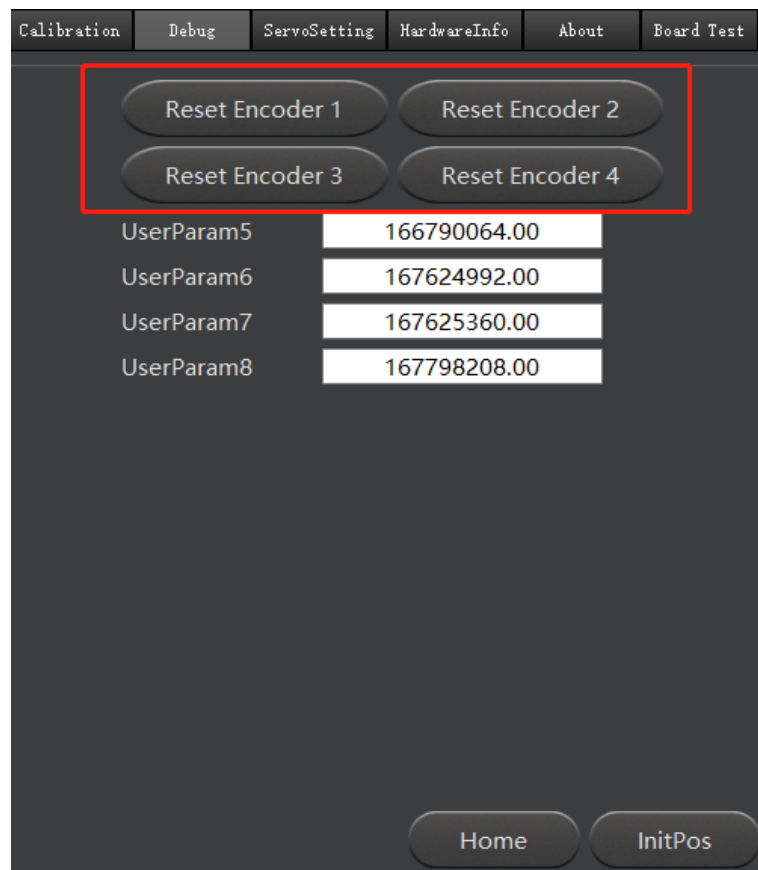

Figure 7.19 Reset Encoders
3. Click **Reset Encoder1**, **Reset Encoder2**, **Reset Encoder3**, and **Reset Encoder4** respectively on the **Debug** page to reset J1 Encoder, J2 Encoder, J3 Encoder and J4 Encoder, as shown in Figure 7.19.